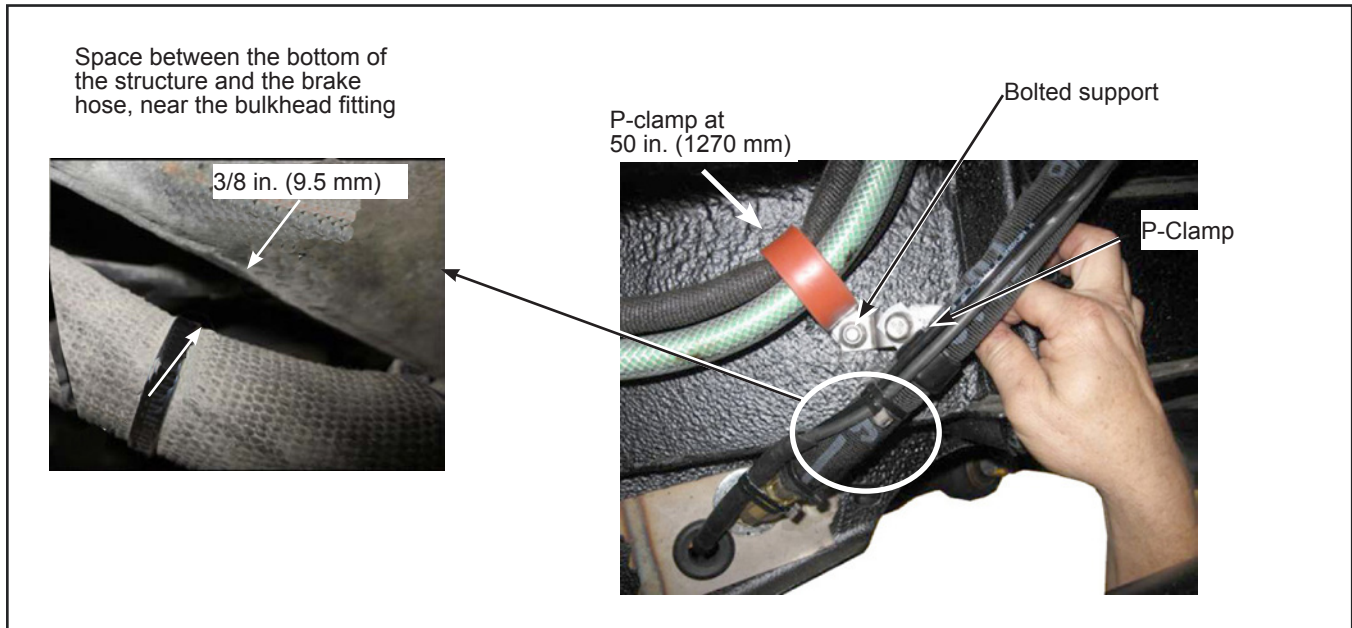

Figure 11 - P-Clamp and hose Position
- 2.13. Adjust the positioning of the P-clamp at the 50 in. (1270 mm) position, to obtain a minimal gap of 3/8 in. (9.5 mm) between the hose and the vehicle structure. See Figure 11.